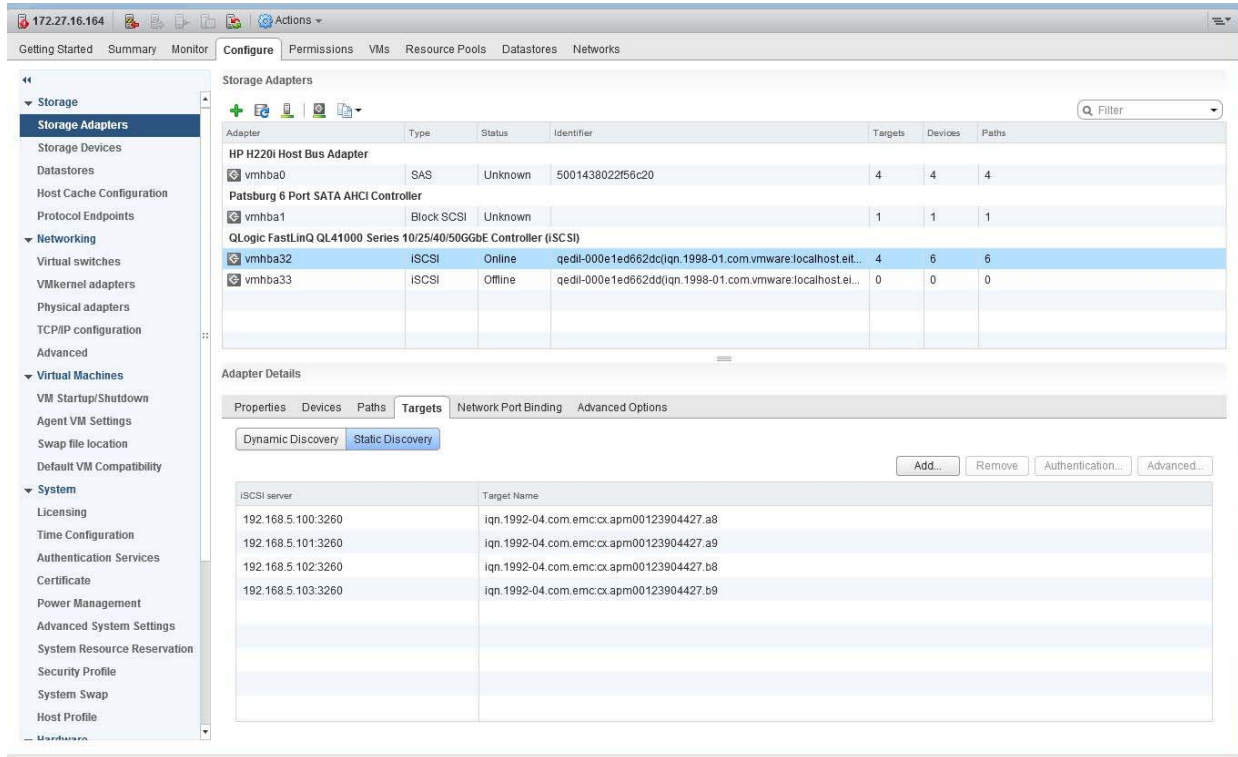

Figure 3-6. Static Configuration Added
- ❑ After static configuration is added, it is listed under **Adapter Details**, **Targets** page, **Static Discovery**, as shown in Figure 3-6.